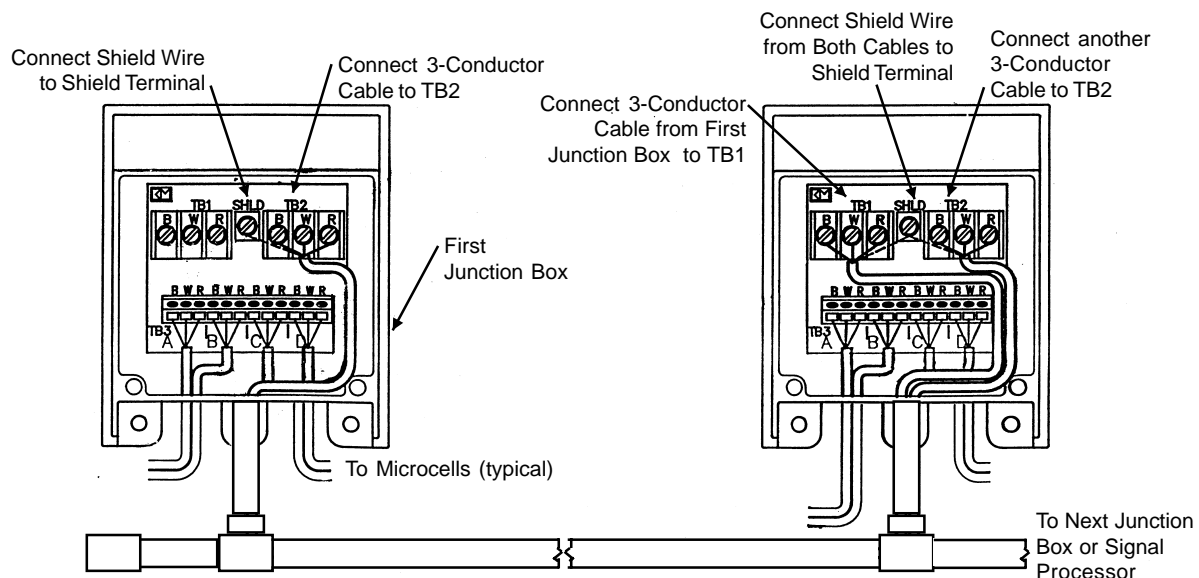
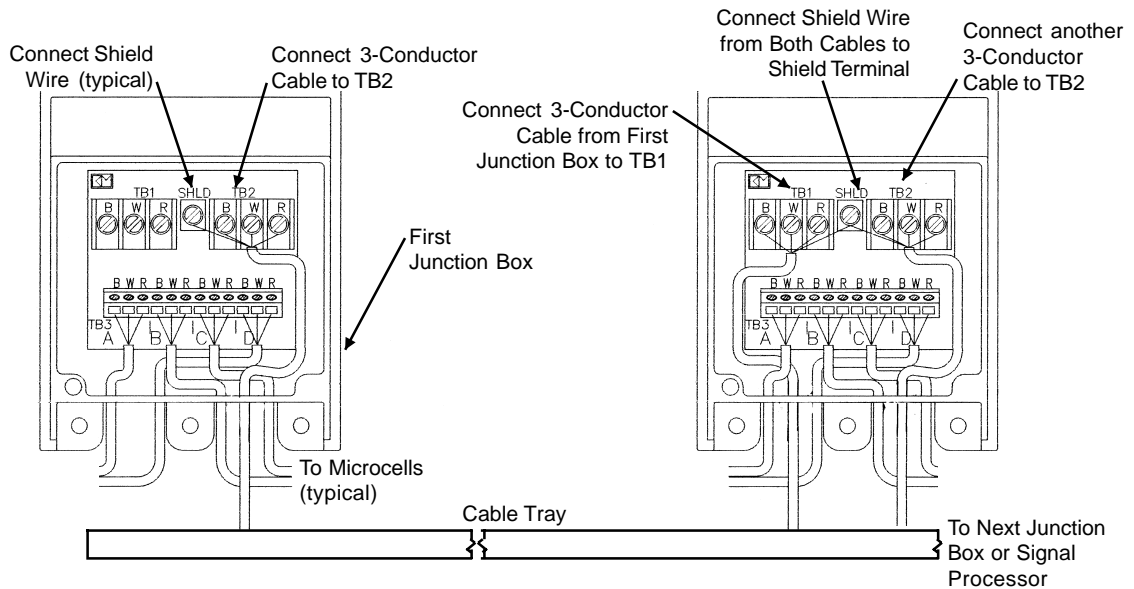

Figure 3-15. Wiring Junction Boxes Together — Conduited Installation
Figure 3-16. Wiring Junction Boxes Together — Non-Conducted Installation
2. See Figure 3-15 (conduited installation) or Figure 3-16 (non-conduited installation). Route the 3-conductor cable through the fitting into the junction box farthest from the signal processor. Connect wires from the cable to the TB2 terminal in the junction box: black wire to B terminal, white wire to W terminal, and red wire to R terminal. Connect the cable shield wire to the Shield terminal between TB1 and TB2.